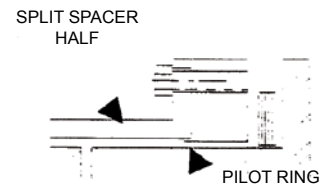

FIGURE 3
6) Install the split spacer using the mounting fasteners. Hold the spacer halves firmly against the adapter pilot ring and snug all the mounting fasteners. See figure 3. Fasteners may be lubricated with light machine oil or a Moly-based anti-seize lubricant. Do not add lock washers. The threaded holes in the adapters are tapped with a self locking thread form.